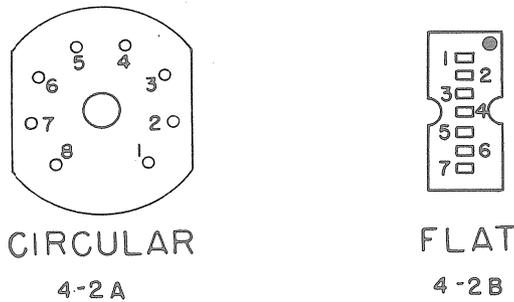
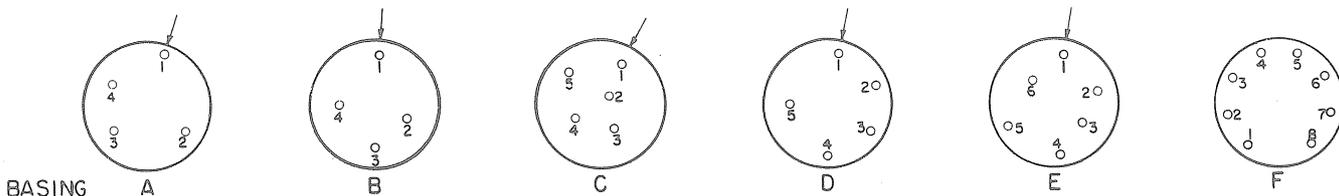

Figure 4-2.—Top View of Socket X-110 and X-111.
Figure 4-3. Basing Sub-Miniature Tubes (Bottom View)
- (26) TESTING SUB-MINIATURE TUBES.
- (a) Sub-miniature tubes of the round type having wire leads instead of pins are tested in the TV-3C/U by means of a special socket X-110, (See Figure 4-1). This socket has 8 contacts, numbers for which are shown by Figure 4-2. There are several basing arrangements used for these tubes as illustrated by Figure 4-3. The numbered leads of the tubes are inserted in the corresponding contacts of the Socket X-110. A good way to handle the leads is to grasp each lead about 1/8" from its end with the tips of a pair of long nose pliers, and insert the leads in their proper socket contacts. Sub-miniature type tubes are identified on the Roll Chart and in Table 4-3 by a star beside the type number. The applicable basing for the various round types is indicated under the column headed NOTATIONS. The basing designation letter refers to the diagram shown in Figure 4-3.
- (b) Sub-miniature tubes of the flat or inline contact type having either pins or leads are tested in the flat socket (X-111 in Figure 4-1) also illustrated by Figure 4-2. The tube pins or leads must be inserted with the dot on the base of the tube directly in line with the small molded dot on the socket.
- (27) ADAPTERS: Due to special bases or unusual contact arrangement, tube types 829B, 832A and 2C39 cannot be tested directly in the regular test sockets of the TV-3C/U equipment. Tube Socket Adapters E-105 and E-106 are provided for use in testing these tubes.
- (28) SPECIAL NOTES. Power line voltage varies in different localities and may also vary somewhat aboard ship. While a national survey indicates that the average voltage for the U.S.A. is about 117 volts, it does not mean that every locality maintains a constant voltage at that level. Occasionally there is the complaint that a used tube will test GOOD, but will not work in the equipment; but when a NEW tube is substituted, the equipment will operate correctly. In a case of this kind check the line voltage being supplied to the
★ For Subminiature tube basing diagrams see Fig. 4-3 of instructions.